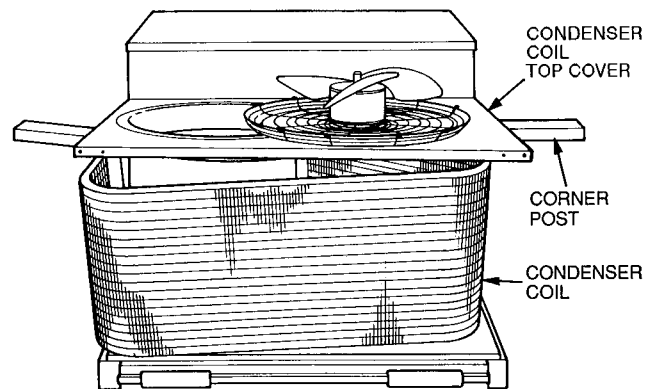

Fig. 28 — Propping Up Condenser Coil Top Cover
8. Use right corner post to prop up right side of condenser coil top cover. Slide condenser coil partially out of condenser fan housing. See Fig. 28.